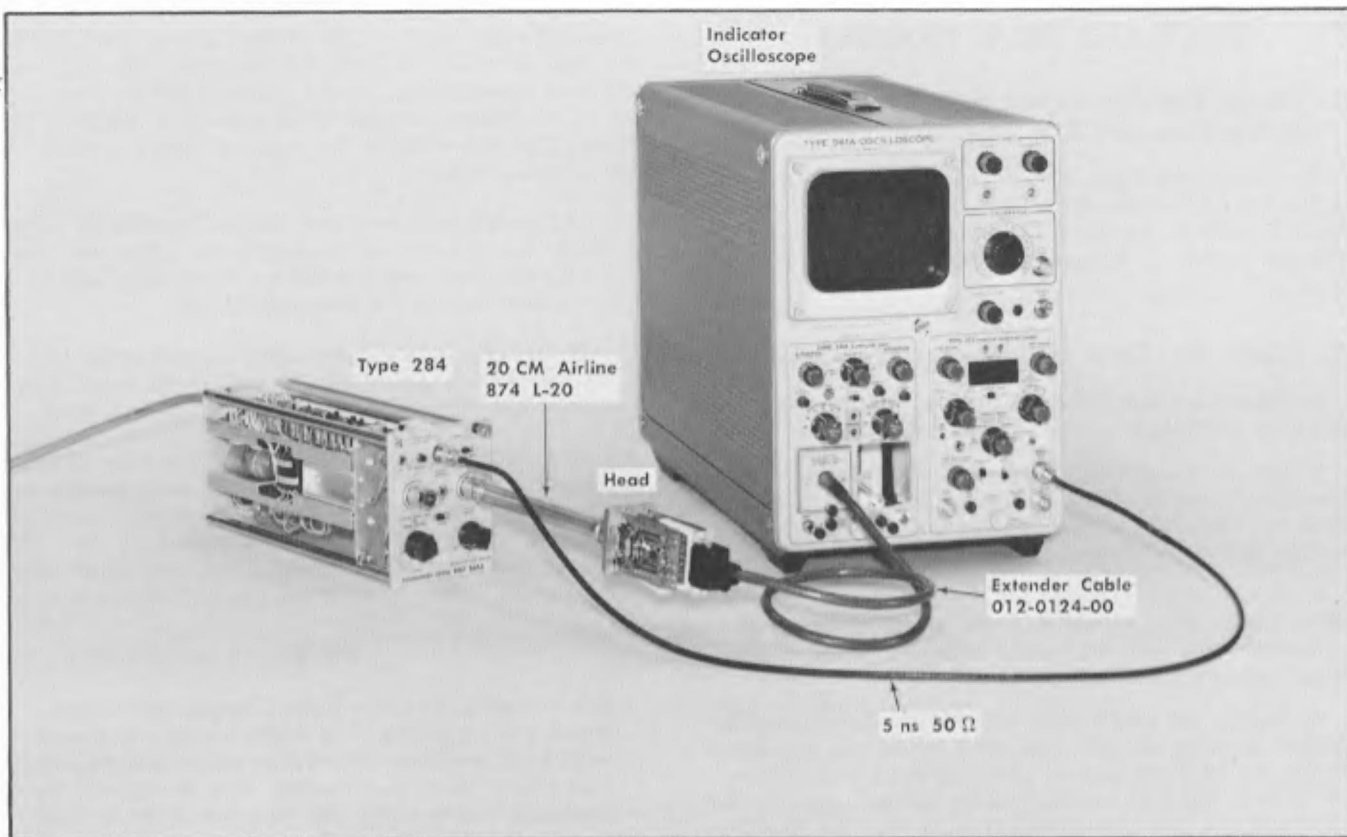

Fig. 5-4. Risetime check test equipment set-up.
The Type S-2 10% to 90% risetime is equal to or less than 50 ps, displayed as 86 ps or faster using the equipment set-up shown in Fig. 5-4.
a. Connect the equipment shown in Fig. 5-4 A or B, depending upon equipment in use. The extender cable is recommended, although not required. The cable permits easy access to the Type 284 TD Bias screwdriver control which is adjusted as part of this step.
Connections in Fig. 5-4 are: